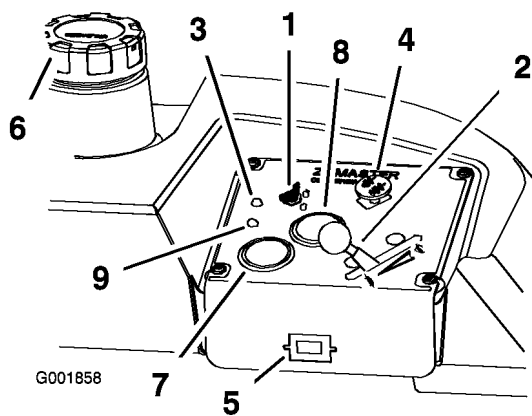

Figure 13
4. Move the PTO (power take off) switch to the off position (Figure 13).
5. Move the throttle lever to the middle position (Figure 13).
6. Turn the ignition key clockwise to the run position (Figure 13). The glow plug light will turn on.